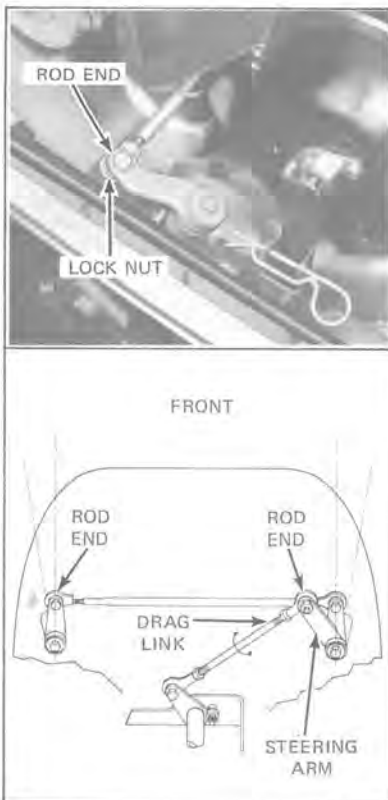

Figure 11-1
- b. Loosen jam nut on outside drag link rod end. See Figure 11-1.